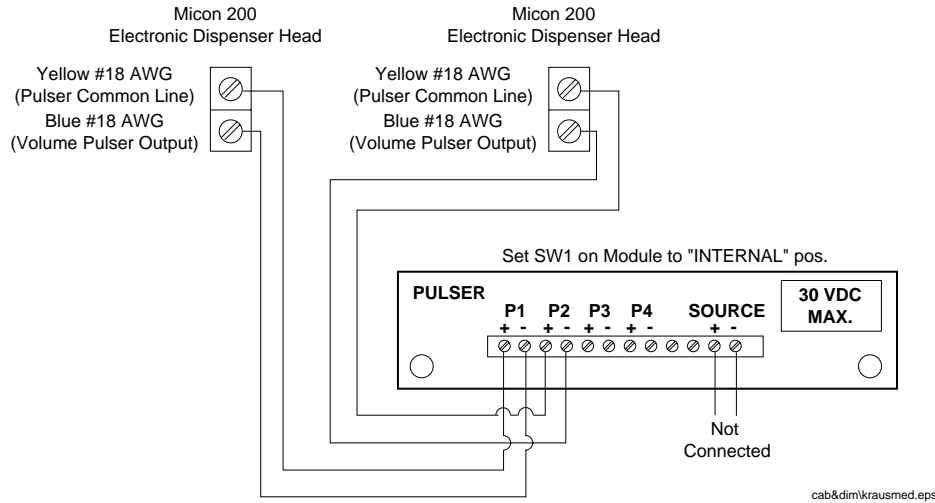

Figure 8. Installation with Kraus Micon 200 Series Electronic Dispensers (Kraus Micon applications are not UL approved)
2. Refer to Figure 8 on page 16. Locate the yellow wire (#18 AWG) on the dispenser. This wire is the pulser common line. Connect this wire to the P1 (+) terminal on the LVDIM.